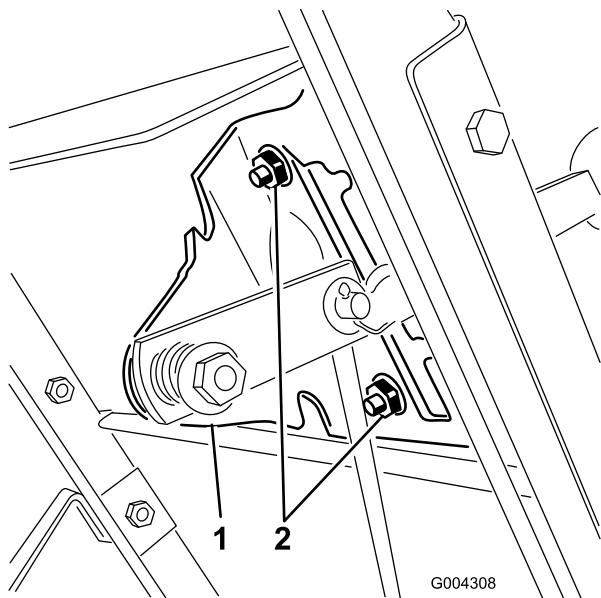
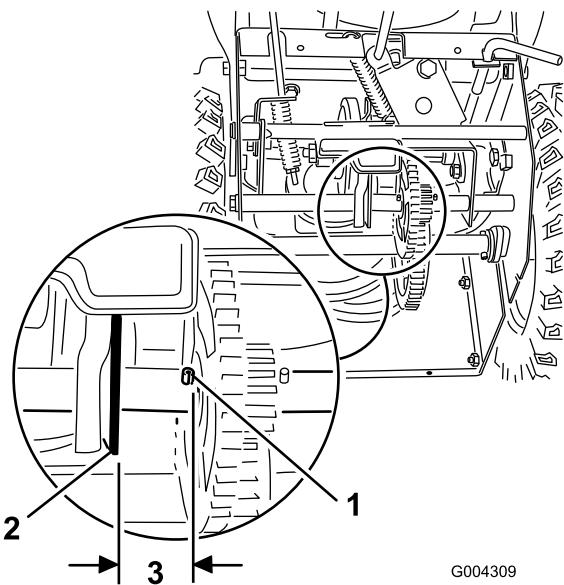

Figure 29
Figure 30
4. Loosen the flange nuts that secure the selector plate to the control panel (Figure 29).
Note: The drive assembly should be $1/8$ inch (3 mm) from the roll pin; if not, slide the selector plate (Figure 29) until the gap is $1/8$ inch (3 mm); refer to Figure 30.